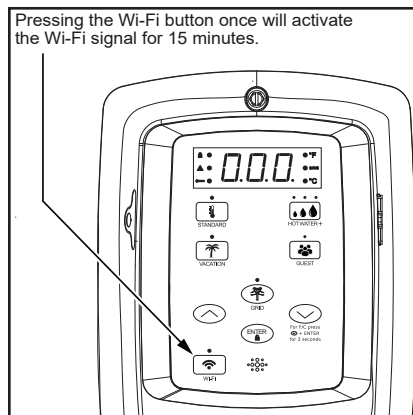

Figure 21 - Wi-Fi Control
- 1 To activate the Wi-Fi signal, press the Wi-Fi button once. The LED will blink on and off in 0.5 second intervals. Wi-Fi will activate pairing mode (Figure 21).